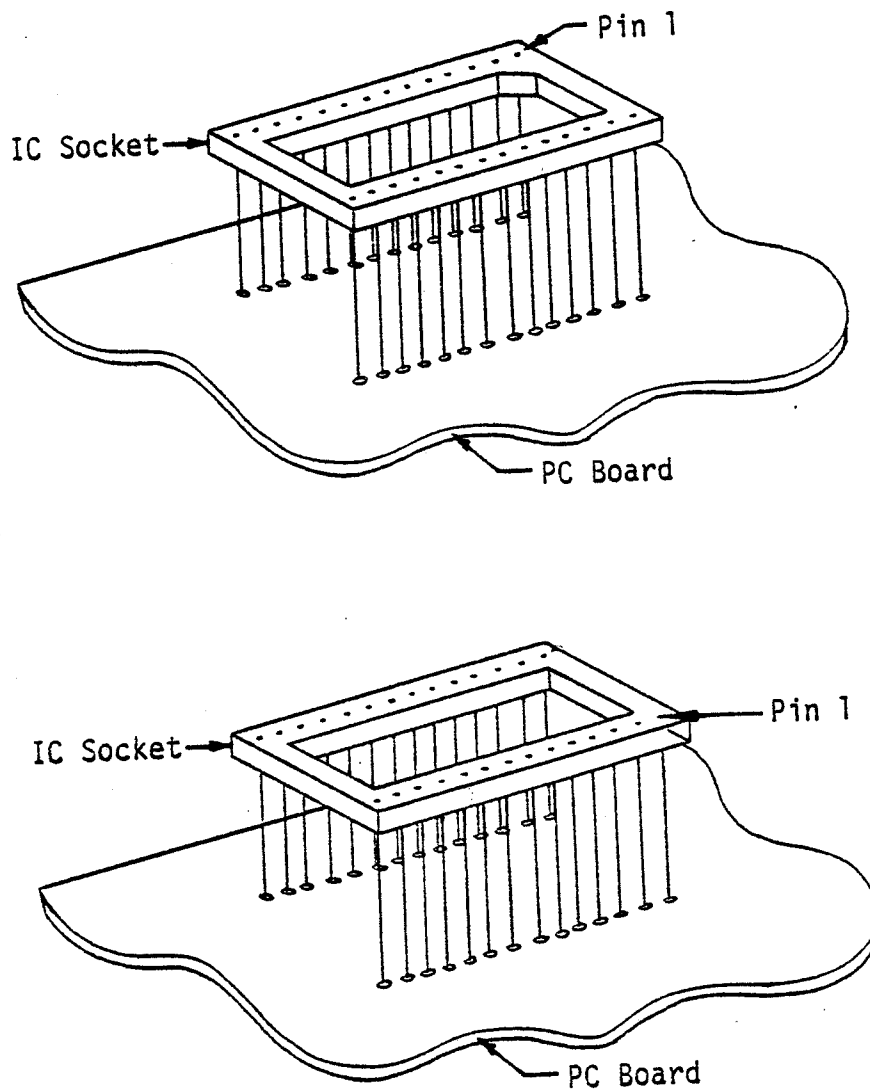

Figure 5-7. IC Socket Installation
5-9. IC Installation Instructions (Figure 5-7)
1. Referring to Figure 5-7, orient the socket so that pin 1 coincides with the arrowhead on the board. Set the socket into its holes, and secure with masking tape.